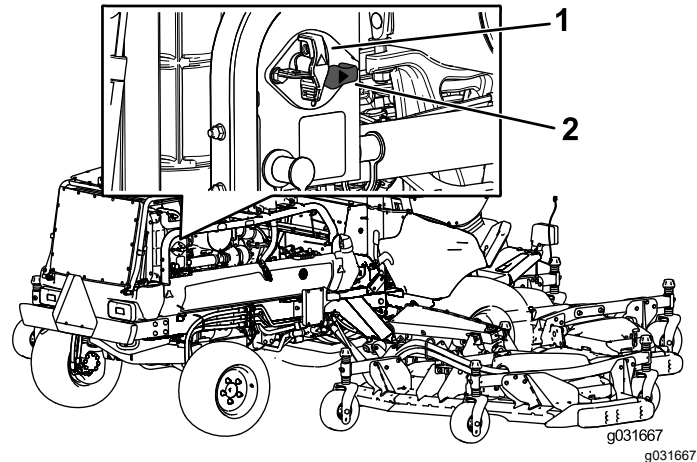

Figure 1
5. Rotate the battery-disconnect switch to the OFF position (Figure 1).